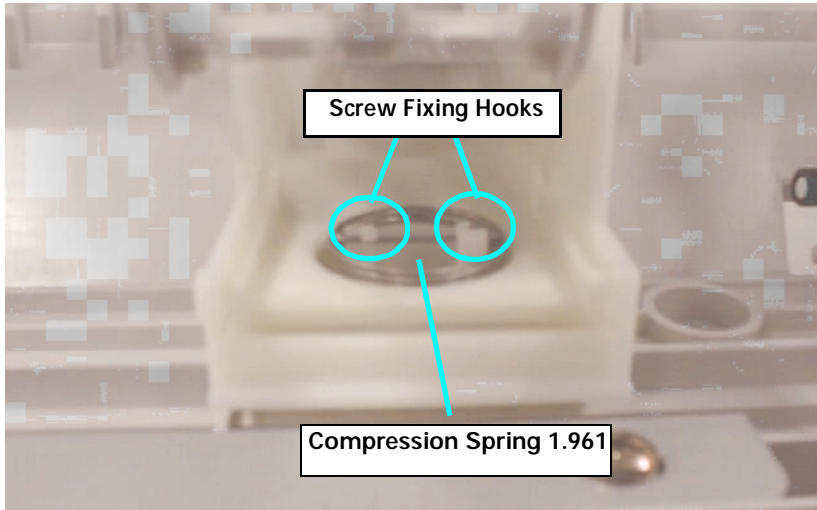

Figure 4-35. Compression Spring 1.961 Temporary Fixing Position
When removing ASF Hopper Assembly from the ASF Frame Assembly, be careful not to damage the Compression Spring 1.961 of the LD Roller Assembly and transparent plastic film. Refer to Figure 4-35.
7. Carefully remove the Compression Spring 1.961. (Refer to Figure 4-35) from both sides between the ASF Hopper Assembly and the R/L ASF LD Roller Assembly.
- Before installing the ASF Hopper Assembly to the LD Roller Assembly, set the Compression Spring 1.961 to the spring installation hook of the LD Assembly temporarily. After assembling, move the LD Roller Assembly to the hole on the back of the ASF Frame and release the Compression Spring 1.961 from the Temporary Fixing Hook through the hole. (Refer to Figure 4-35.)